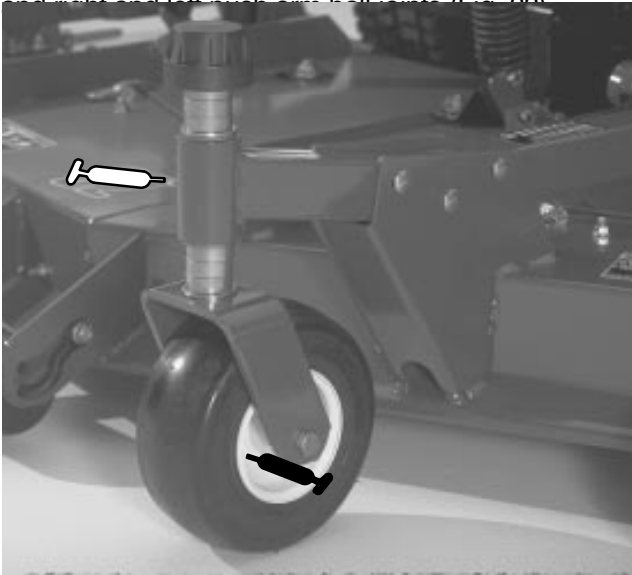
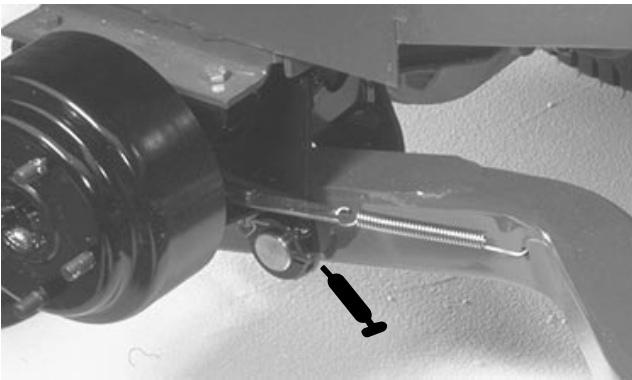
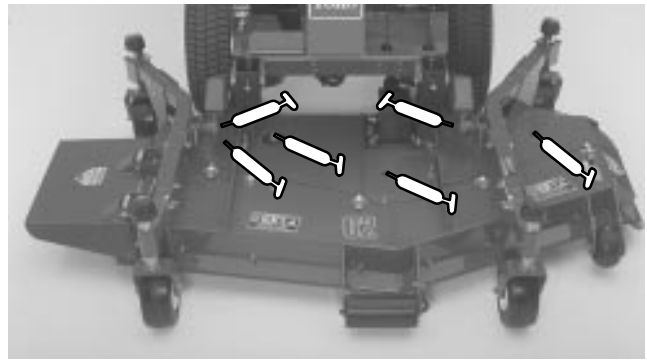

Figure 20
Figure 21
Figure 22
GREASE BEARINGS, BUSHINGS AND GEAR BOX (Fig. 20–23)
1. The cutting unit has bearings and bushings that must be lubricated, and these lubrication points are: front castor spindle bushings (Fig. 20); front and rear castor wheel bearings (Fig. 20); right and left lift arm pivot pins (Fig. 21); blade spindle bearings (Fig. 22); and right and left bushings ball joints (Fig. 22).